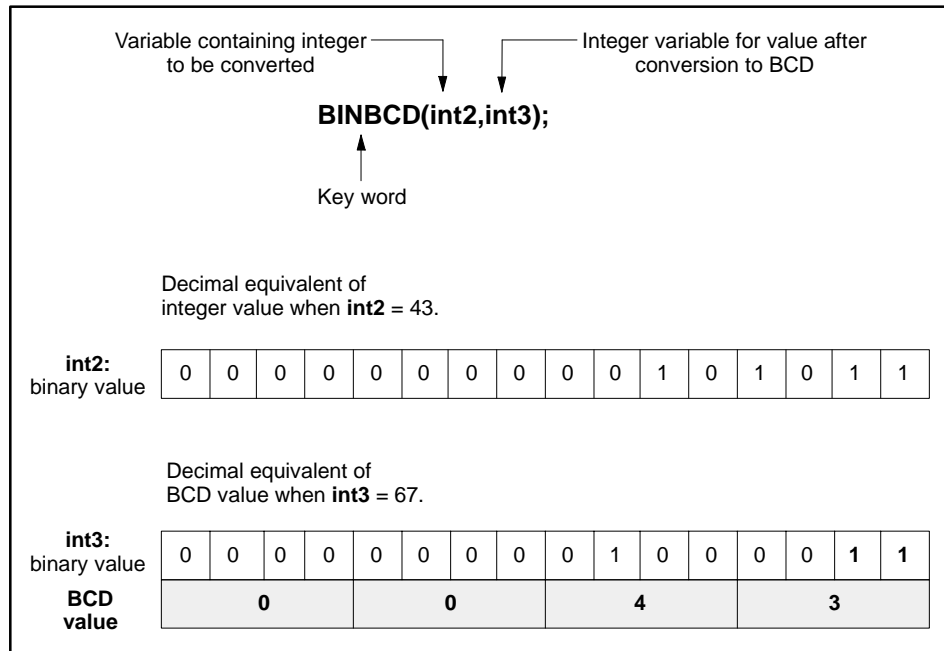

Figure 11-7 BINBCD Procedure
- The second variable in the parentheses is an integer variable that stores the converted value (that is, the BCD value). See the example in Figure 11-7.